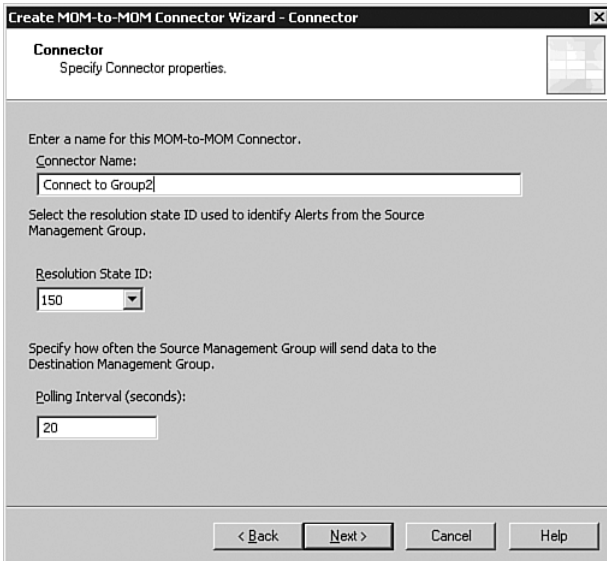

FIGURE 19.7 The MMPC properties screen.
1. The first screen after the Welcome screen is the Connector properties screen displayed in Figure 19.7.